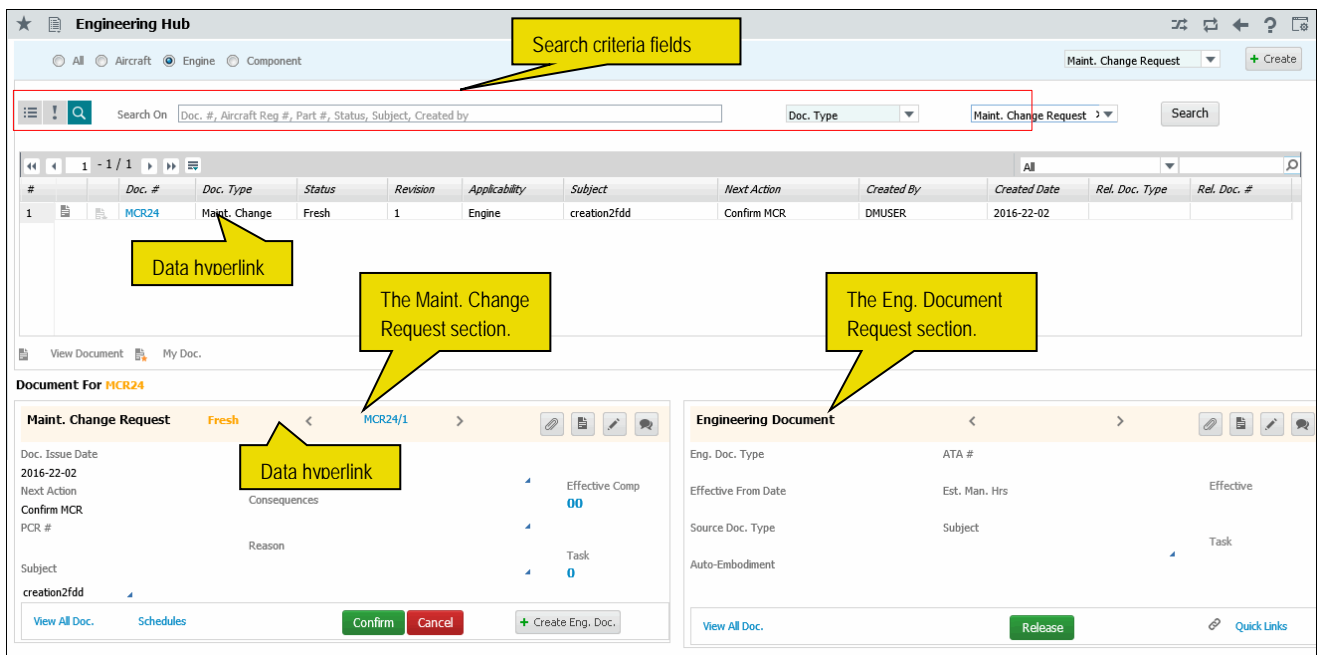

Figure 2.4 The user-specific Search mode
1. Select the  icon to specify search criteria to retrieve documents of the selected applicability. See Figure 2.4.
1. Click on the hyperlinked **MCR #** on the top of the section to view details of the document, if the document is in the **Released**, **Confirmed**, **processed** or **Cancelled** status. However, if the document is in the **Fresh** status, the **Manage Eng. Document** page appears. See Figure 2.4.
This section displays the details of the engineering document for which you have clicked the  icon in the multiline. Alternatively, if you have clicked the  icon for MCR document, the section displays the details of the engineering document associated with the MCR. *See Figure 2.4.*